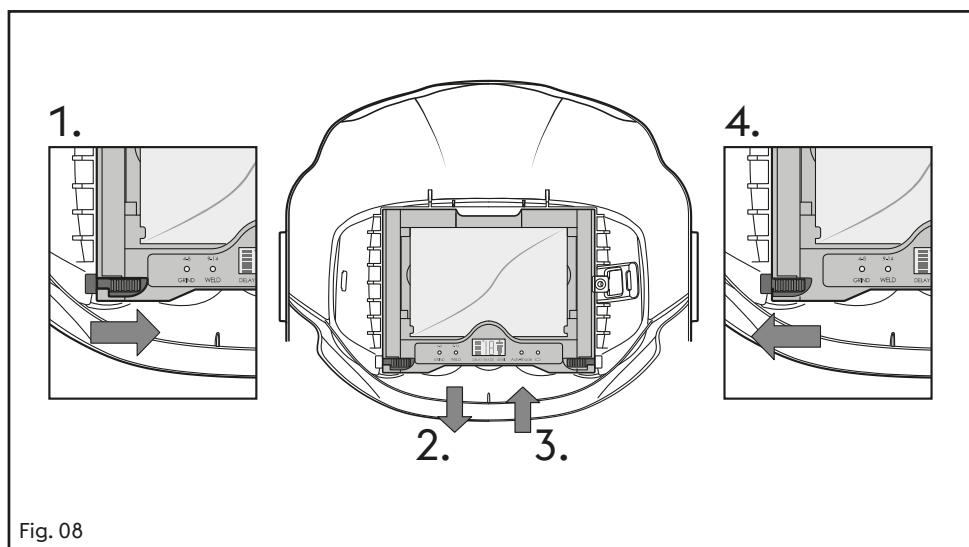

Fig. 08
1. To replace the inner lens the ADF needs to be removed from the flip-element. To do this, lift the flip into the up position. Rest the helmet with the chin facing up exposing the bottom of the ADF. (p. 7 - Fig. 08) Slide the two locking tabs into the middle. The ADF can now be slid out with a gentle pull.
4. Refit the ADF by sliding it along the tabs back into the flip-element and slide the two tabs outward to secure the ADF in place. (p. 7 - Fig. 08)